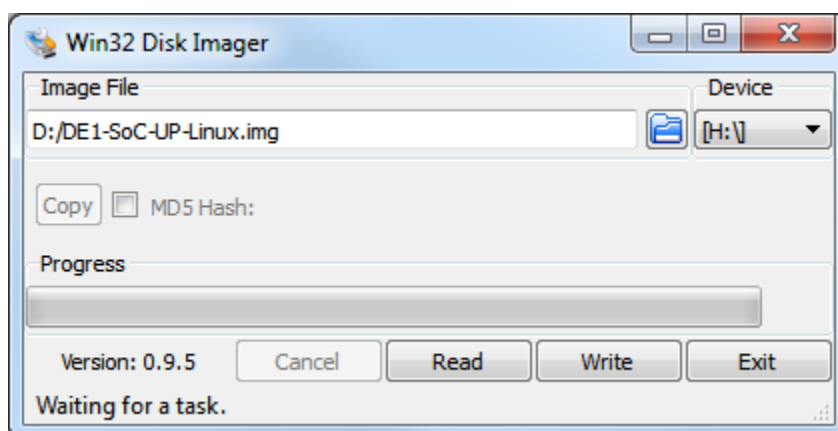

Figure 1. The Win32 Disk Imager tool.
2. Select the drive letter corresponding to the microSD card under *Device*, as shown in Figure 1.
3. Select the *DE1-SOC-UP-Linux.img* image under Image File, as shown in Figure 1. This image can be found on the Altera University Program webpage alongside this tutorial.